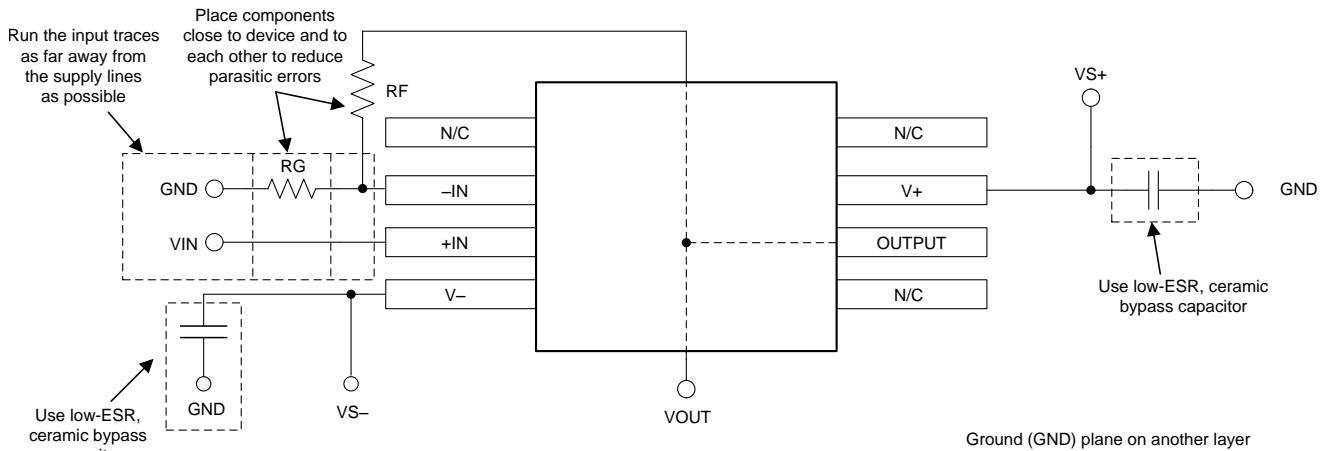

Figure 44. Operational Amplifier Board Layout for Noninverting Configuration
- Place the external components as close to the device as possible. Keeping RF and RG close to the inverting input minimizes parasitic capacitance, as shown in *Figure 44*.